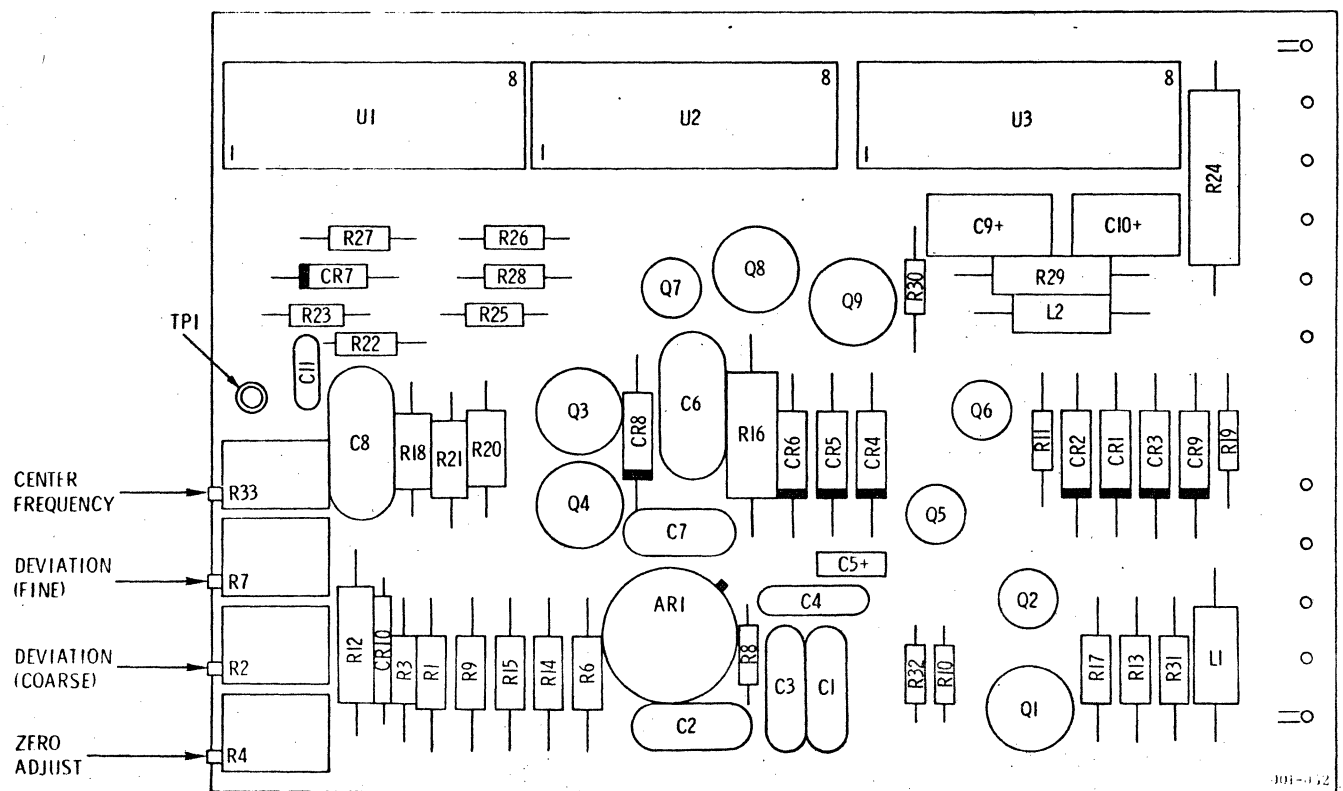

Figure 6-7. FM Record Amplifier Adjustments.
2. With the digital voltmeter connected to channel 1 Record Input connector, adjust DC ZERO ADJ. (R4) for 0.0 V dc,  $\pm 0.001$  V dc (Figure 6-7).